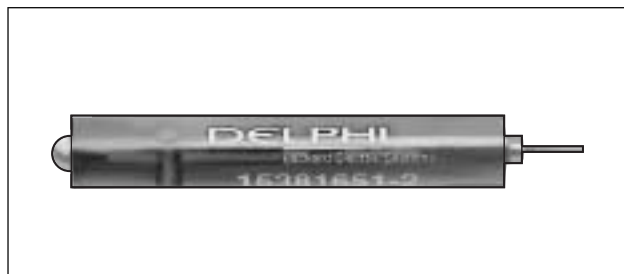

Figure 8-43. Packard Micro 64 Terminal Remover (Part No. HD-45928).
4. Obtain the Packard Micro 64 Terminal Remover (HD-45928). See Figure 8-43. Proceed as follows: